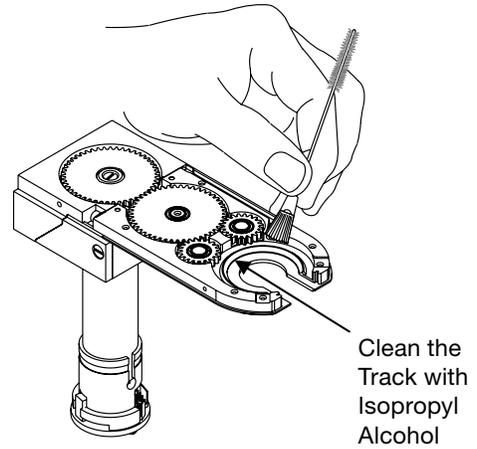

Figure 50 *Cleaning the Guideway of the Rotor Track with Isopropyl Alcohol*
9. Clean the teeth of the gears with the nylon brush included with the weld head. See Figure 50.
10. Clean the gear surfaces with a swab and isopropyl alcohol. See Figure 50.